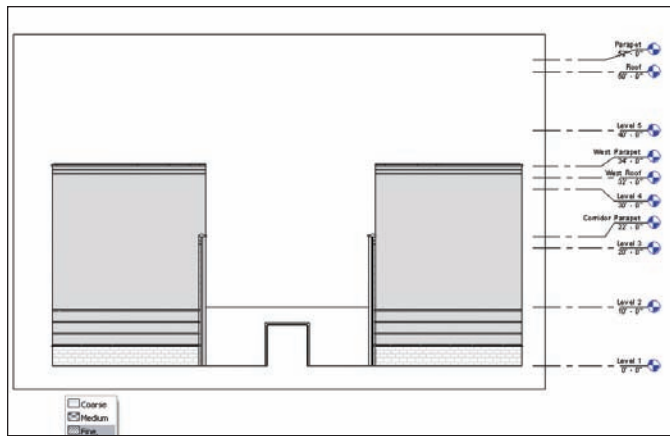

FIGURE 3.40 On the View Control bar, set Fine as the detail level.
9. Pick the left end of the level lines, and move them to the right as well. This will get all of the lines out of the way so that you can work on the section (see Figure 3.40).
11. On the View Control bar, select Fine for the detail level, as shown in Figure 3.40. (Making adjustments like this to a view will become second nature to you very soon.)